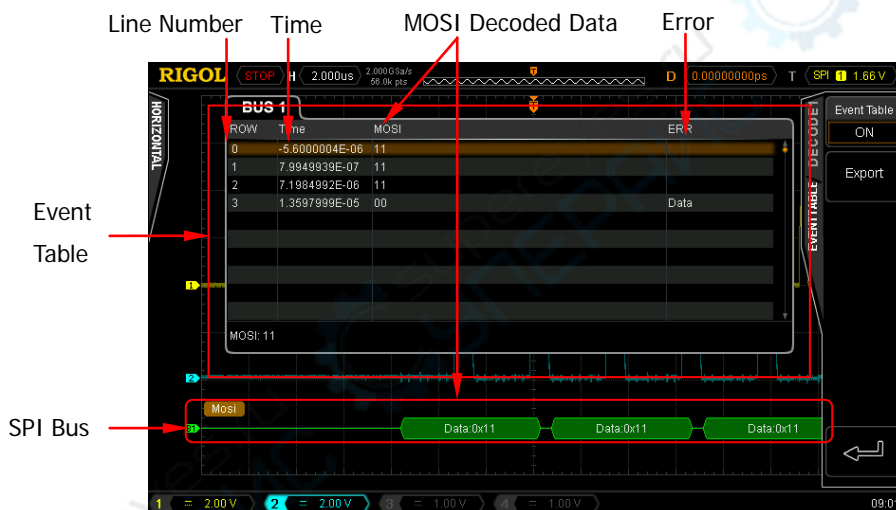

Figure 7-5 SPI Decoding
Press **BusStatus** to turn the Decode1 display on or off. You can also press **Decode1** to switch the current on/off status of the Decode1 display. When the bus display is turned on, the interface is as shown in Figure 7-5.
- 1) Press **Event Table** to turn on or off the event table. When the event table is turned on, the interface is as shown in Figure 7-5.